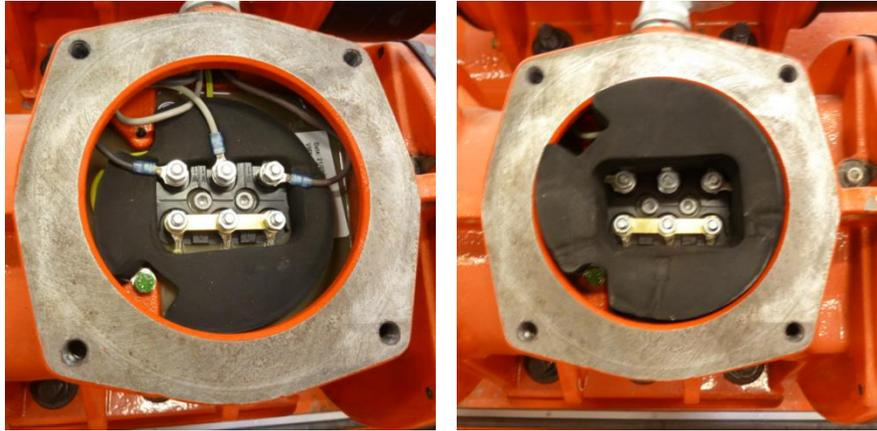

Figure 31. Thin Lower Isolator; Leads Showing (Left) and Thick Top Isolator; Leads Not Showing (Right)
2. Install the thin isolator first (Refer to Figure 31).
4. Place the thick isolator on top of motor leads (Refer to Figure 31).